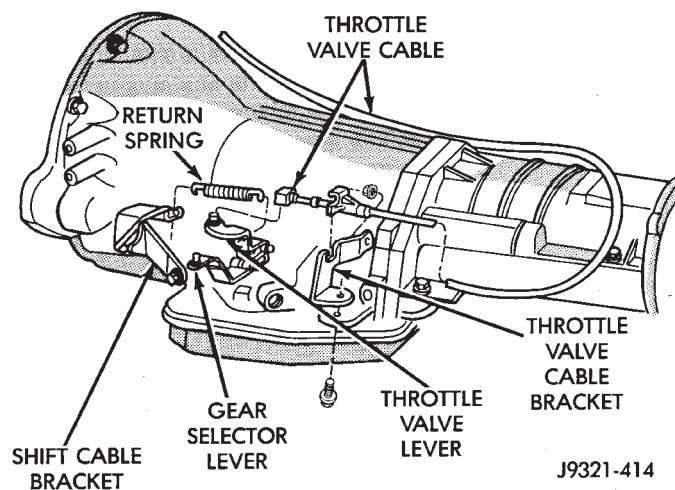

Fig. 178 Throttle Cable Attachment At Transmission
- (1) Turn ignition key to OFF position.
- (2) Remove air cleaner.
- (3) Verify that lever on throttle body is at curb idle position. Then verify that transmission throttle lever (Fig. 178) is also at idle (fully forward) position.